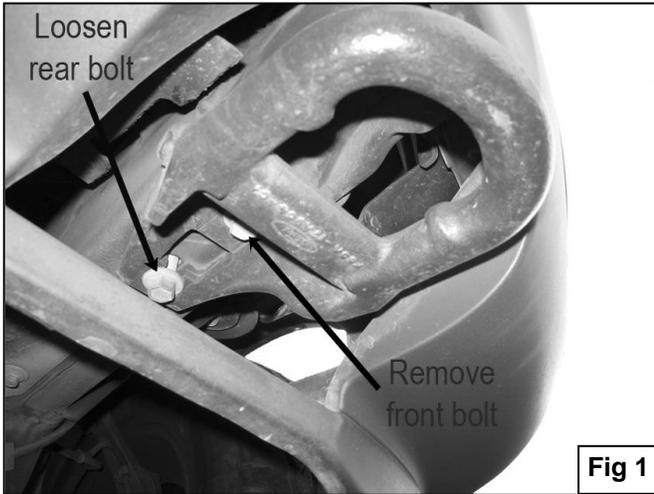

Fig 1
4. Starting on the driver side of the vehicle, remove tow hook by removing front bolt and loosening rear bolt sufficiently. **IMPORTANT!** Do not remove rear bolt completely. Once you remove the front bolt and loosen up the rear bolt, push back on the tow hook to disengage it from rear bolt. Tow hooks can be re-installed if desired (**Figure 1**).